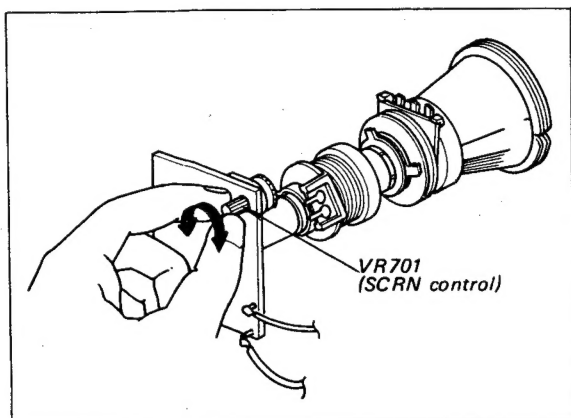

Fig. 3-15. SCRN control adjustment
- (1) Turn the SCRN control (VR701) slowly and note the hue (red, green or blue) that becomes faintly visible first as shown in Fig. 3-15.